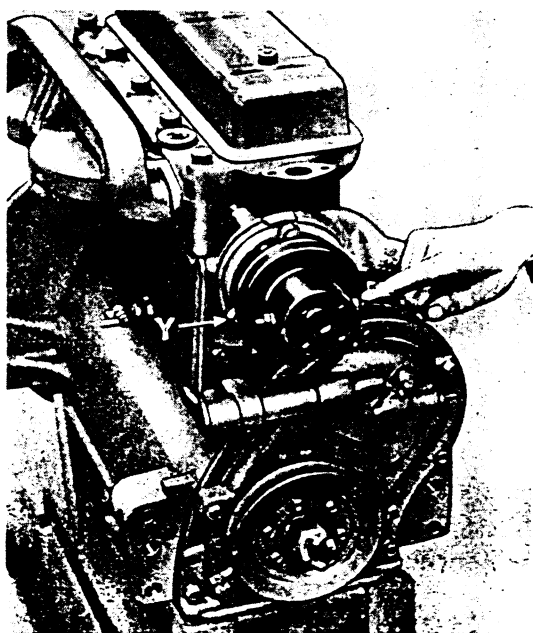

FIG. 6
TE-20—nuts from 3 studs, the one marked Y, Fig. 6, being long enough to accommodate one of the securing nuts for bearing housing.
The procedure for replacement is reversal of that given for removal. If grease nipple is fitted to TE-A20 pump, inject with grease until it exudes from the vent hole. Alignment of pulley on tractors TE-20 can be adjusted by slackening nuts indicated by finger in Fig. 6 and twisting pulley which is held to its housing by bolts through helical slots. Balance piece (26) must be replaced with its locating hole ( $\frac{1}{16}$ " dia.) in line with the hole in the fan assembly.